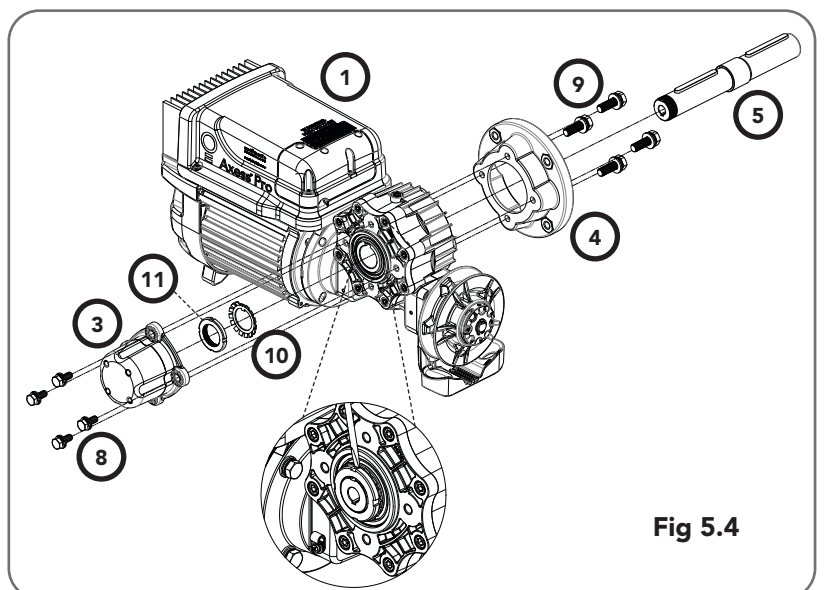

Fig 5.4
The opener can be installed on either the right- or left hand side of the shutter (when viewed from inside the building). The timing assembly, mounting flange and drive shaft needs to be assembled according to the installation side. Assembling the opener for RIGHT- HAND installation is listed below and shown in **Fig 5.4**. For LEFT-HAND side installation, assemble the parts from the other end.
- Assemble the mounting flange (4) with four M8x38 screws (9) to the drive unit (1).
- Insert the output drive shaft (5) into the gearbox, thread side first.
- Secure the output drive shaft with the lock washer (11) and lock nut (12).
- Finger tighten the lock nut\* (12) then lock it by securing the position of the lock nut by bending one tooth of the lock washer (11) into the slot on the lock nut. (**Fig 5.4 insert**)
- Line up the shaft of the timing assembly (3) with the keyway on the back of the drive shaft. Push and secure the timing assembly with four M8x20 bolts (8) ensuring the cable gland is facing the motor.